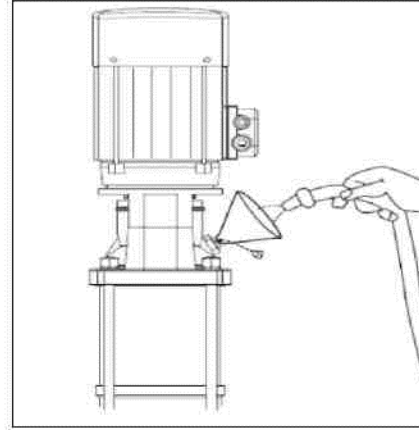

Figure 3
- 7- Remove the filler plug and fill the pump with liquid. Refit the filler plug and tighten securely (See Figure 3).